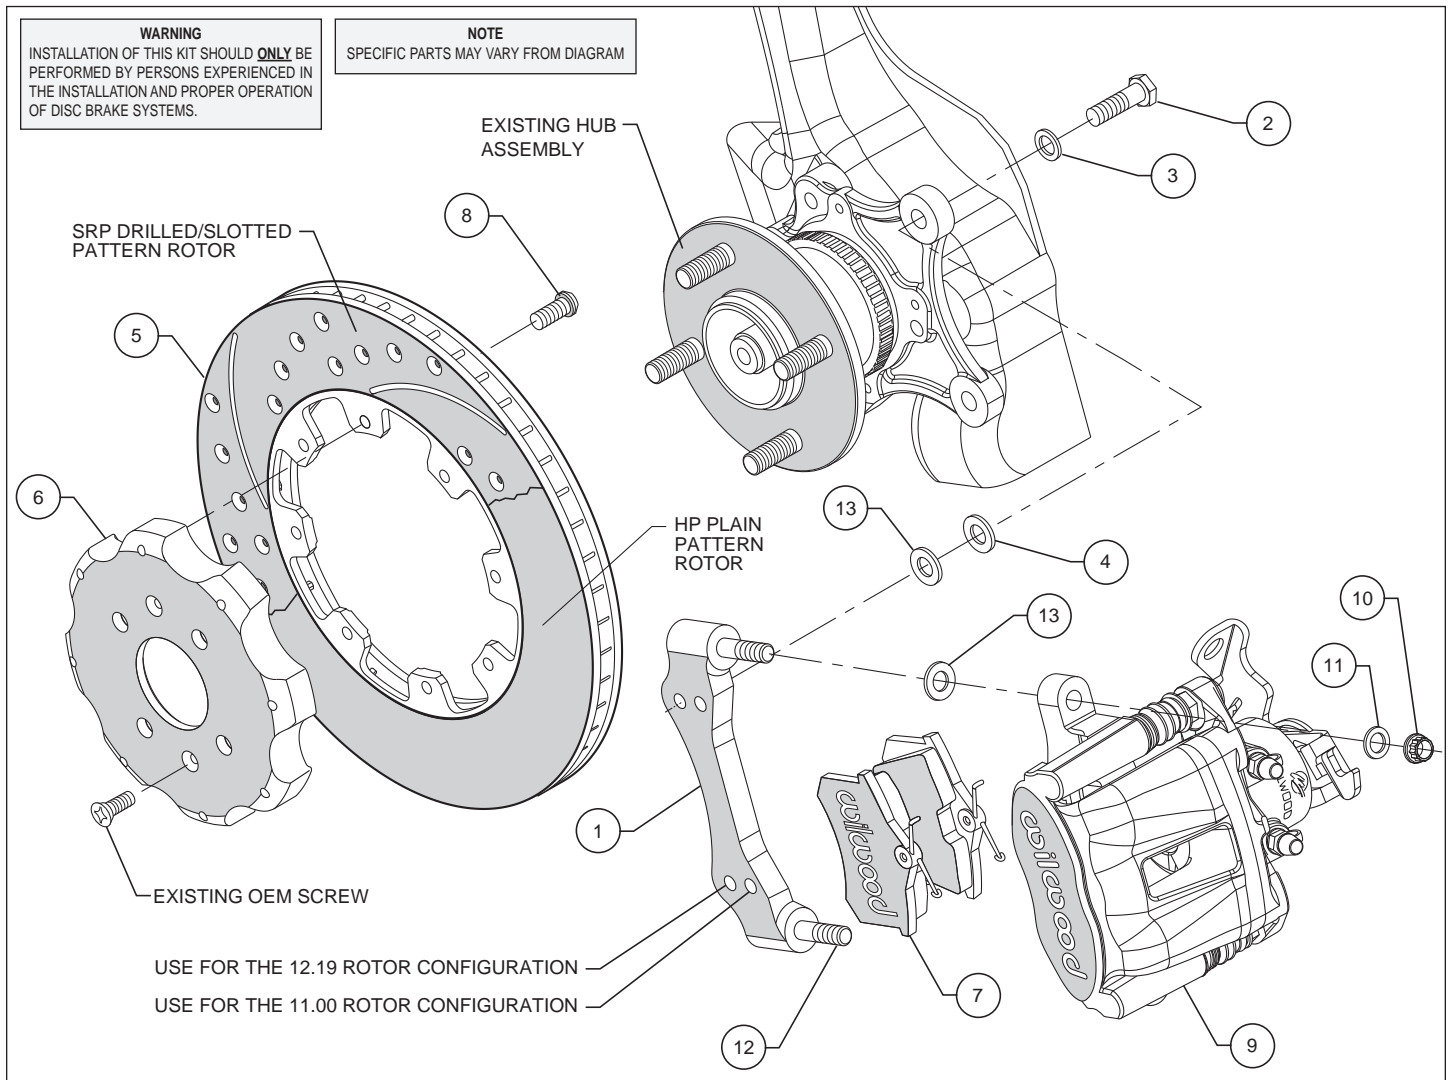

Figure 1. Typical Installation Configuration
- The caliper mounting bracket (1) should be installed first with clean, dry threads on the mounting bolts. Install the bracket (1) on the outboard side of the hub assembly by sliding bolt (2) from the inboard side of the hub assembly through washer (3) through the existing OEM caliper mounting holes and thread into lower holes in bracket (1) (see figure 1). Place two shim washers (13) between the hub assembly and the caliper mounting bracket (1). The mounting bracket (1) must tighten squarely against the outboard side of the hub assembly face. Inspect for interference from casting irregularities, machining ridges, burrs, etc. Use two shims (13) between the mounting bracket (1) and the hub assembly during initial trial fitting.
- With the larger I.D. side of the rotor (5) facing away from the hat (6), attach rotor (5) to hat (6) using bolts (8) as shown in Figure 1. Using an alternating sequence, remove bolts (8) one at a time, apply red *Loctite*[®] 271 to the threads, and torque to 25 ft-lb.
- Slide the brake pads (7) up into the caliper (9) from the bottom until the "v" spring clip snaps into place against the anvil. They should install easily without interference.
- Lubricate caliper mounting studs and nuts with lightweight oil. Install two shims (13) over each stud (12) on the radial mount bracket (1). Slide the caliper (9) in place over the studs and rotor and install the washer (11) and lock nut (10) to hold the caliper in place. The caliper bleed screw should be pointing toward the rear of the vehicle. Snug the lock nuts (10) and check that the caliper (9) is centered over the rotor (5). Add or subtract .016" shims (4) and/or .035" shims (13) as necessary between the caliper mounting bracket (1) and the spindle face to center the caliper (9) on the rotor (5).
- Check that the outside radius of the brake pad (7) is aligned with the outside diameter radius of the rotor face. Add or subtract shims (13) between the caliper (9) and caliper mounting bracket (1) to gain the proper alignment.
- Once all clearances have been checked, remove the wheel, caliper and rotor from the axle flange. Secure the caliper mounting bracket (1) to the spindle face while applying red *Loctite*[®] 271 on the bolt threads (2). Torque the bolts (2) to 35 ft-lbs. Reinstall the rotor and again use several lug nuts to hold it in place being sure to align the small countersunk holes in the hat (6) with the corresponding holes in the hub (if applicable). Reinstall the caliper, torque the caliper nuts (10) to 30 ft-lbs.